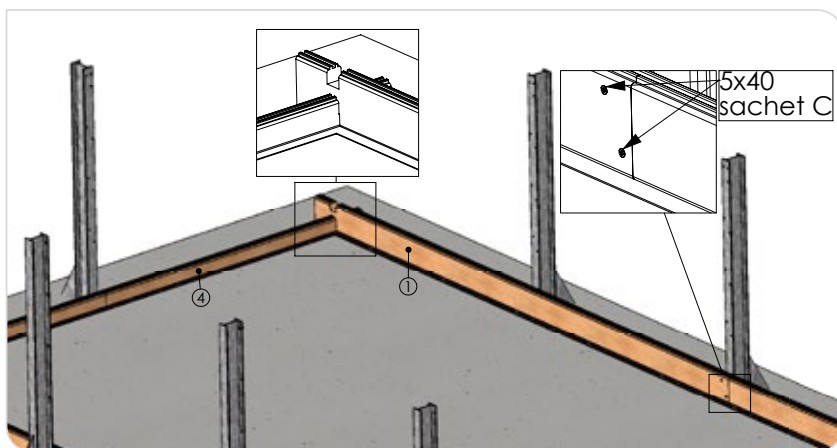
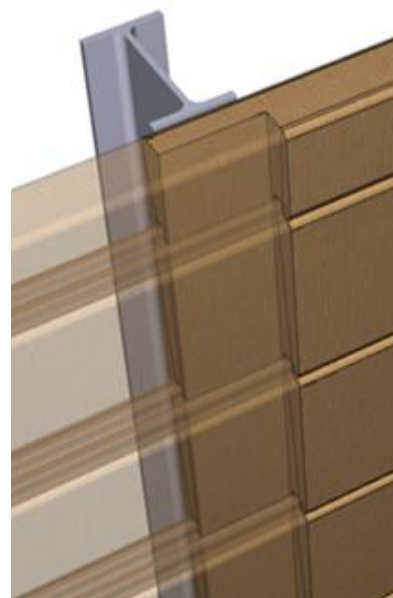

Figure 16 – 1st row of slats
Figure 17
Lay out the ½ slats 'ref. 8' that make up the pool widths, then at the corners fit them into the slats marked '1' that make up the pool lengths (*Figure 16*). The slats forming the lengths and widths of the pool must overlap at the metallic support braces, as shown in *Figure 17*.